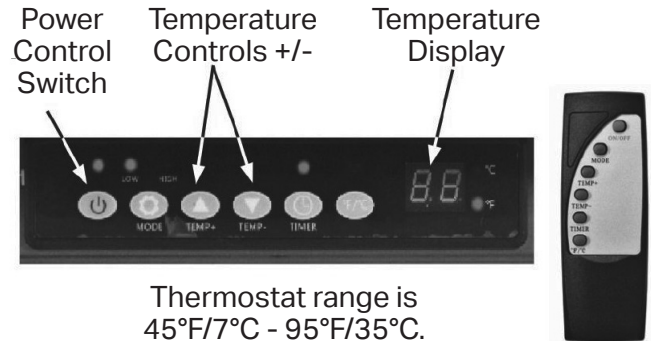

Figure 2
3. The temperature setting can be adjusted between 45°F (7°C) to 95°F (35°C). To change the temperature, press the TEMP+ or TEMP- buttons on either the unit or the remote. (See Figure 2)